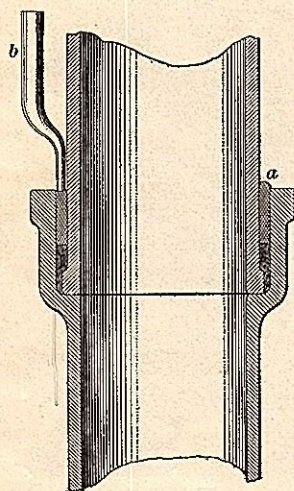

FIG. 9
into the socket, the lead will drive it too far when it is calked, and the work will be defective. In a joint of an upright pipe the lead should be poured into the socket until it stands about  $\frac{1}{8}$  inch above the rim, when it is just on the verge of overflowing, as shown at *a* in Fig. 9. The object of the excess of lead is to obtain a flush finish with the edge of the hub when the lead is calked; this result obtains if the oakum has been packed in solid. The stiffness and durability of the joint depend on the perfect and complete filling of the socket to the extreme edge.
9. The process of calking the lead or oakum should be begun at the most difficult or inaccessible parts of the joint, so that the lead and oakum in these parts will be compressed still more when the other parts of the joint are being calked. The staving tool or lead calking tool *b*, Fig. 9, should be run around gently the first time, and then around again with heavier blows of the hammer to drive the lead uniformly home, thus avoiding unequal strains on the socket. Each blow of the hammer increases the pressure inside of the hub, and judgment must be exercised to avoid cracking the hub by overpressure. It is well for the beginner to calk a few joints as an experiment until the sockets burst, to determine when he should stop calking.